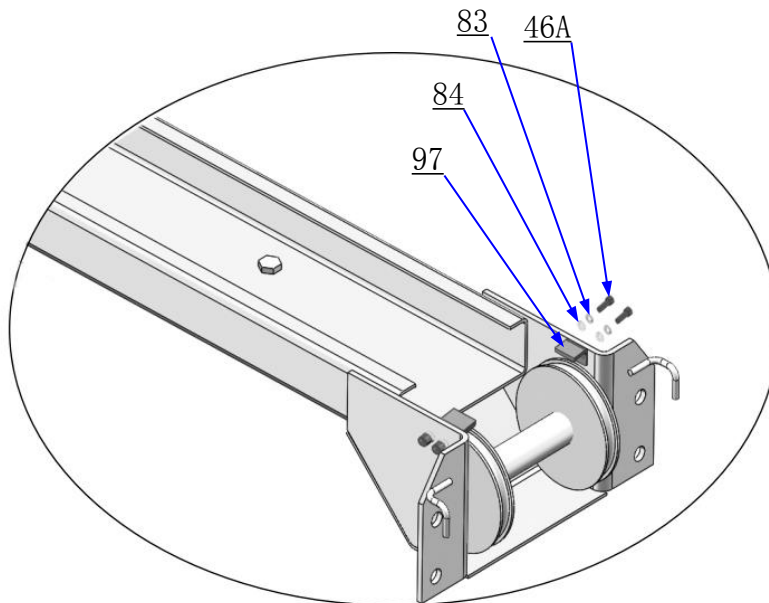

Fig. 35
N. Install safety cable limit plate (See Fig. 35).